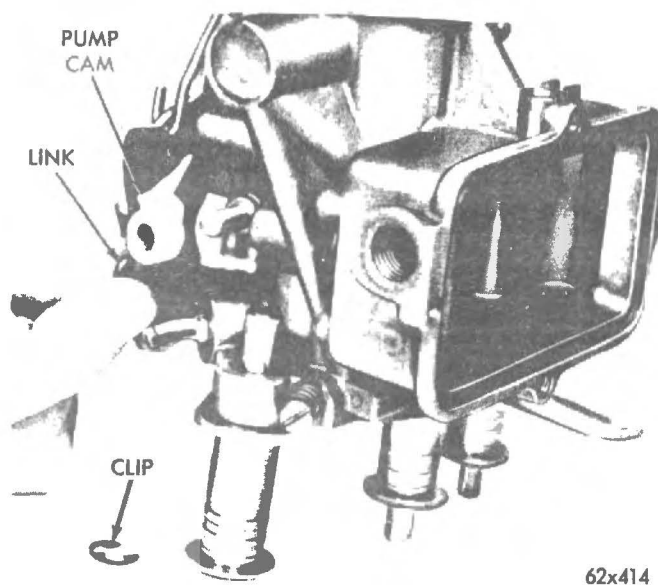
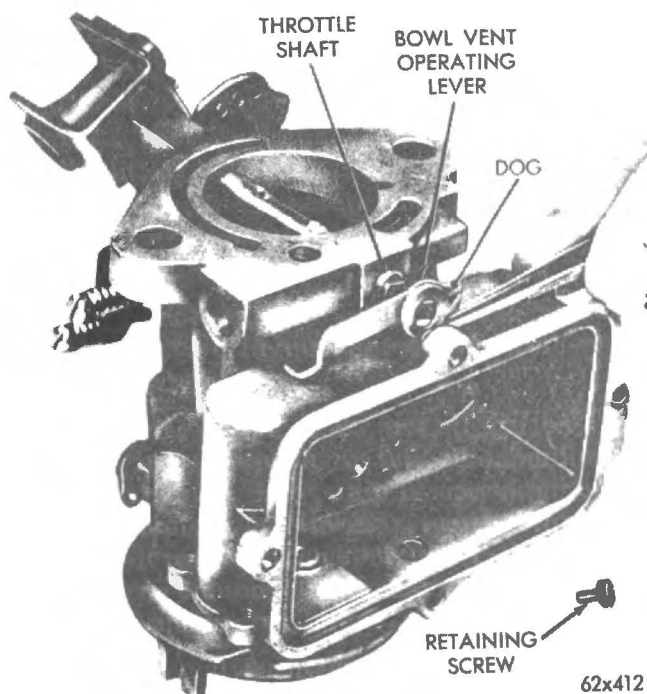

Fig. 19 - Removing or installing the pump cam and link.
Fig. 21 - Removing or installing bowl vent operating lever.
(11) Using a suitable tool, remove the pump cam retaining clip. Slide cam off pivot and disengage link from throttle lever (Fig. 19).
(13) Remove the idle air mixture adjusting screw and spring from the throttle flange.
(14) Remove the fast idle and curb idle speed screws and springs from the throttle lever.
(15) Invert the carburettor and remove the bowl vent operating lever and dog retaining screw, then remove lever and dog, from the end of the throttle shaft (Fig. 21).
(16) Remove the cotterpin that connects the choke piston link to the choke valve. Disengage link from bracket.
(17) Remove the screws that hold the choke valve and the choke piston link bracket to the choke shaft. These screws are staked to prevent loosening, and extreme care is necessary to avoid breaking off in choke shaft.
(18) Lift out the choke valve and link bracket. Withdraw the choke shaft and lever out of the carburettor.
(8) Engage the pump cam link with the cam and throttle lever, then install cam and secure with clip (Fig. 19). When installing the link, be sure link is in the centre hole of throttle lever.
(9) Engage the choke link with the choke lever and fast idle cam. Place cam in position, then install retaining screw. Tighten screw securely.
(10) Position the bowl vent operating lever and dog on the end of the throttle shaft and secure with retaining screw (Fig. 21).